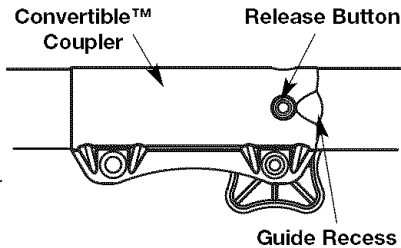

Fig. 5
WARNING: Avoid accidental starting. Make sure you are in the starting position when pulling the starter rope (Fig. 5). To avoid serious injury, the operator and unit must be in a stable position while starting.
2. Press and hold the release button (Fig. 5).
NOTE: Aligning the release button with the guide recess will help installation (Fig. 5).